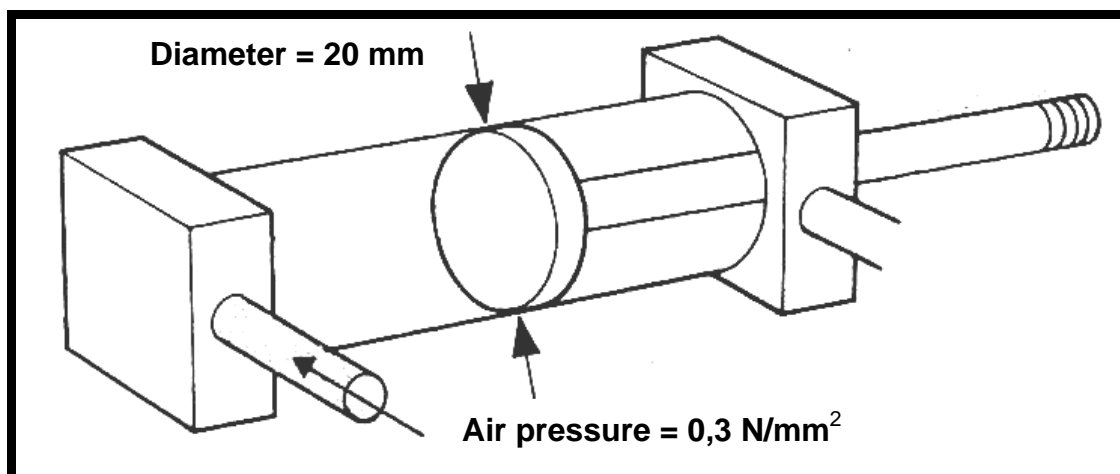

FIGURE 1.5
1.17 What is the magnitude of the force produced by the piston shown in FIGURE 1.5 if the air pressure is $0,3 \text{ N/mm}^2$? (Hint: $1 \text{ N/mm}^2 = 1 \text{ MPa}$)